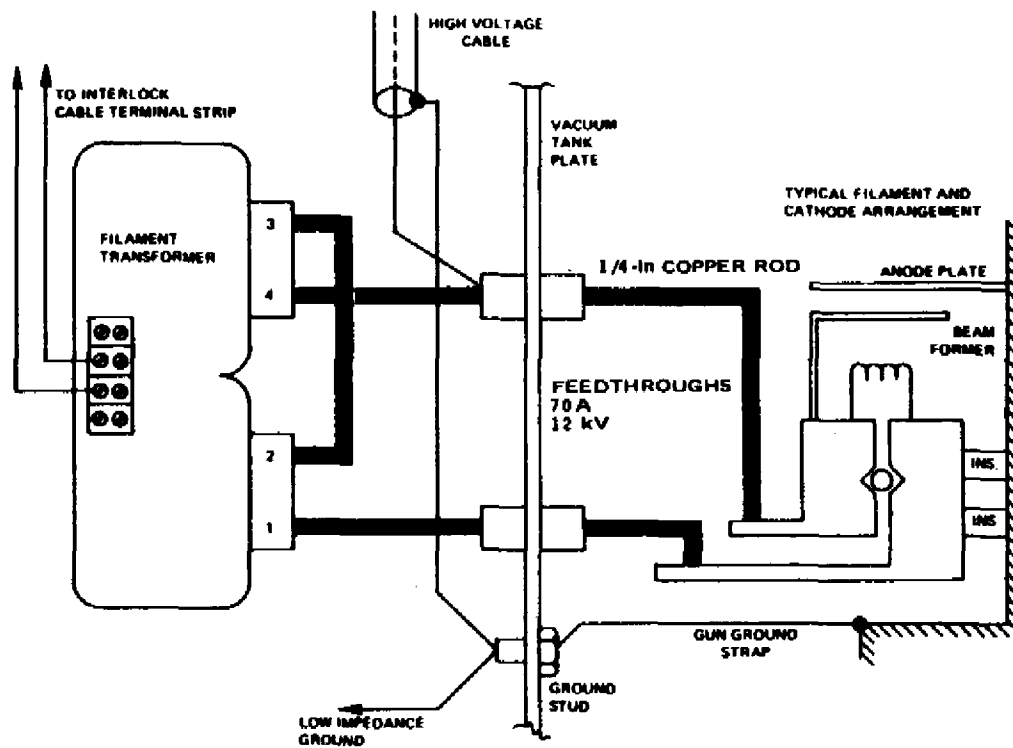

Figure 2-2. Filament transformer connection diagram, 840 VA
2.3.4 Filament Transformer (Figures 2-2 and 2-3)
2.5.1 Gun Filament Conductors (Figures 2-2 and 2-3)